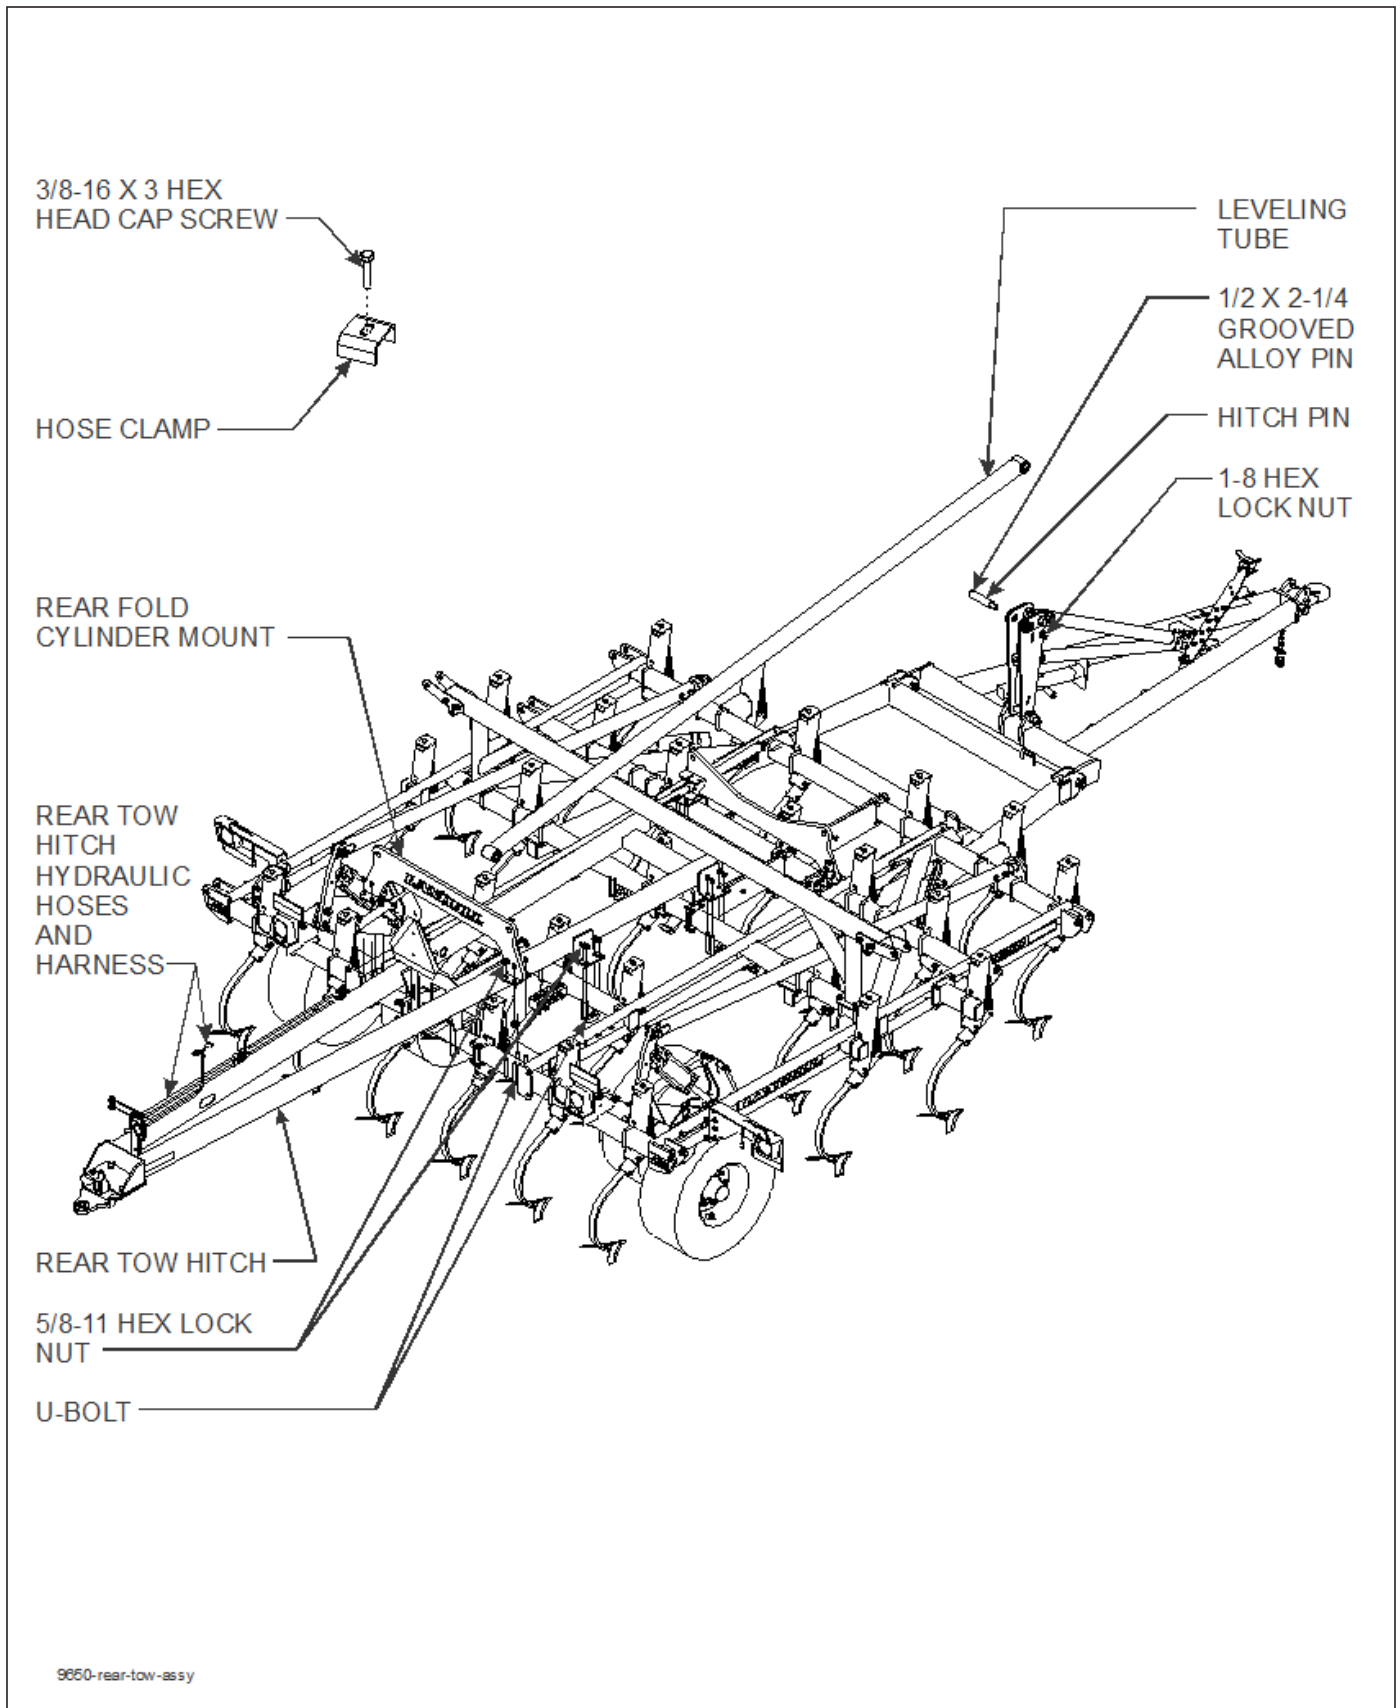

Figure 3-23: Rear Tow Hitch Installation
2. Remove the front-to-rear leveling tube **See Figures 3-23**.